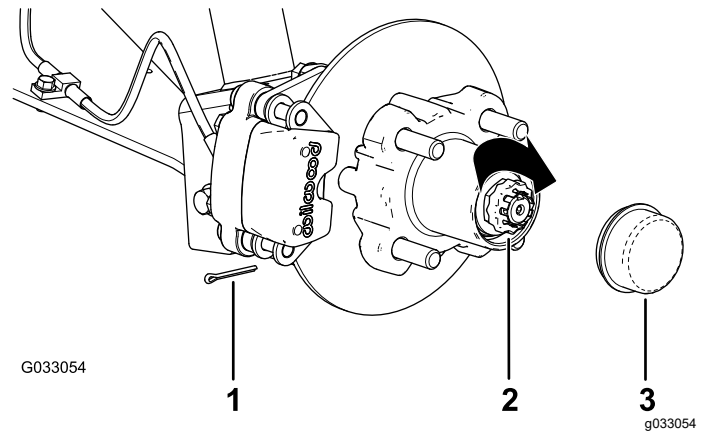

Figure 35
8. Install the retainer over the nut and check the alignment of the slot in the retainer and the hole in the spindle for the cotter pin (Figure 35).
9. Install the cotter pin and bend each legs around the retainer (Figure 35).
10. Install the dust cap onto the hub (Figure 35).